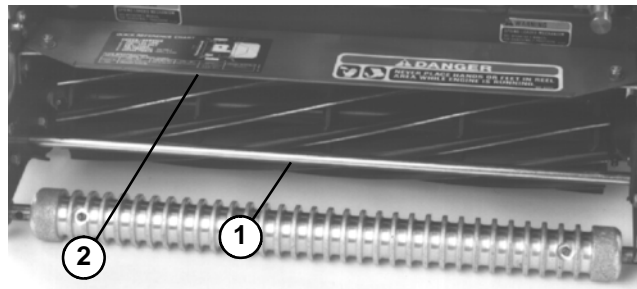

Figure 18
2. Measure distance from the top of the front support rod to the front lip of the shield at each end of cutting unit (Fig. 18).